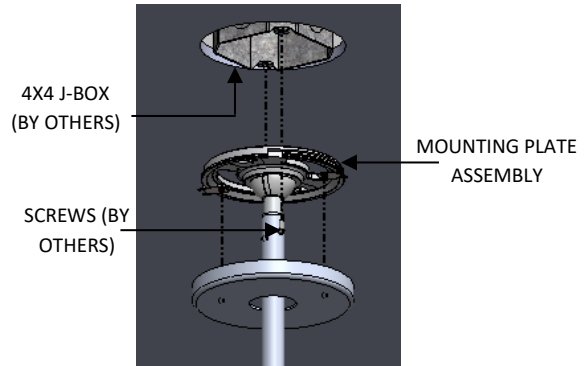

FIG. 8 - MOUNTING PLATE INSTALLATION
2. Mount the MOUNTING PLATE assembly to the junction box (by others) as in FIG. 8. if the fixture has a safety cable, attach this to a structural member.